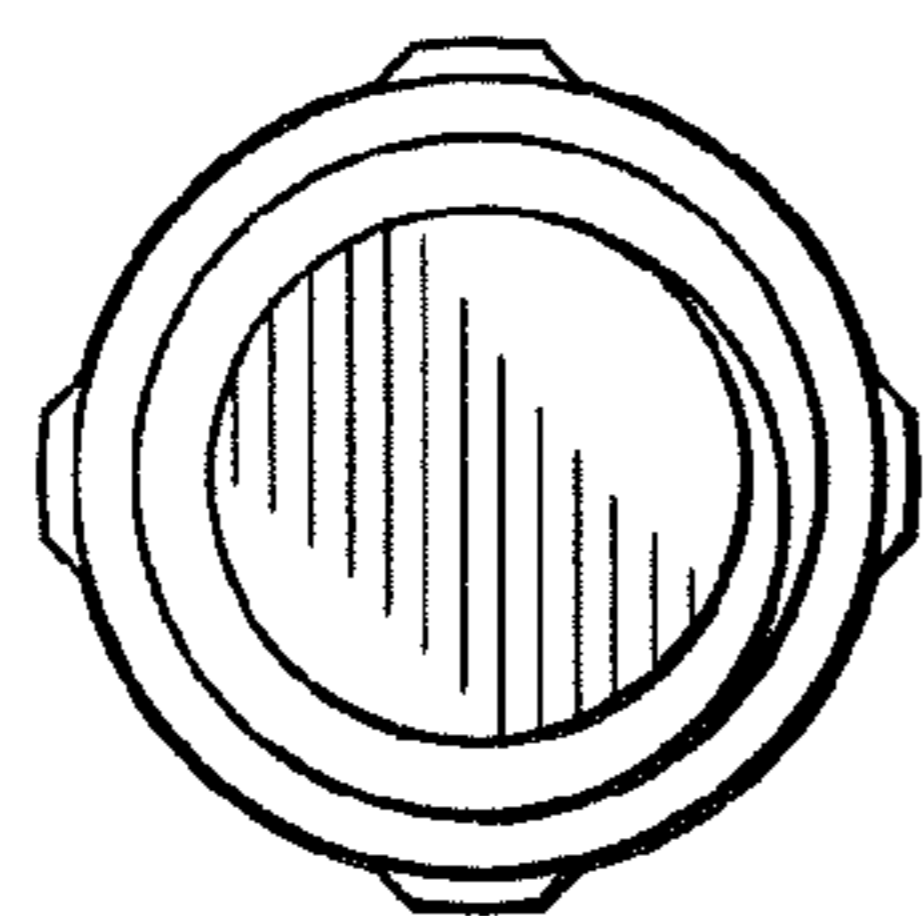

Fig. 17
- FIG. 17 is a top plan view of the stud having longitudinal ridges;